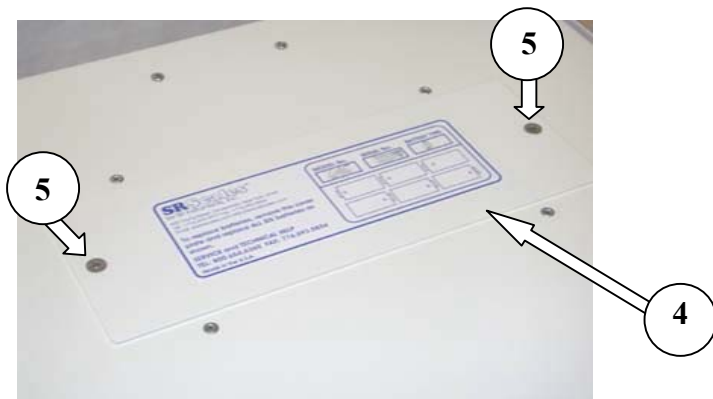

Figure 1: Battery Compartment Cover & Screw Locations
STEP 2: (Figure 1) Turn the scale base over to access the Battery Compartment Cover (4) and remove the two (2) Battery Cover Screws (5). Install the six (6) “D” cell batteries as described on battery compartment cover label and replace the Battery Compartment Cover. Turn scale base right side up and place on a stable flat surface so that all four feet are supported.